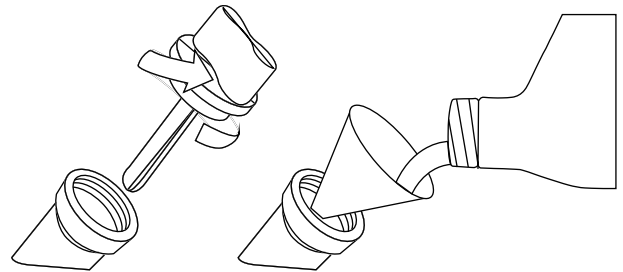

Figure 3: Oil Funnel
3. Using the oil funnel, add the right amount of oil. (see figure 3)